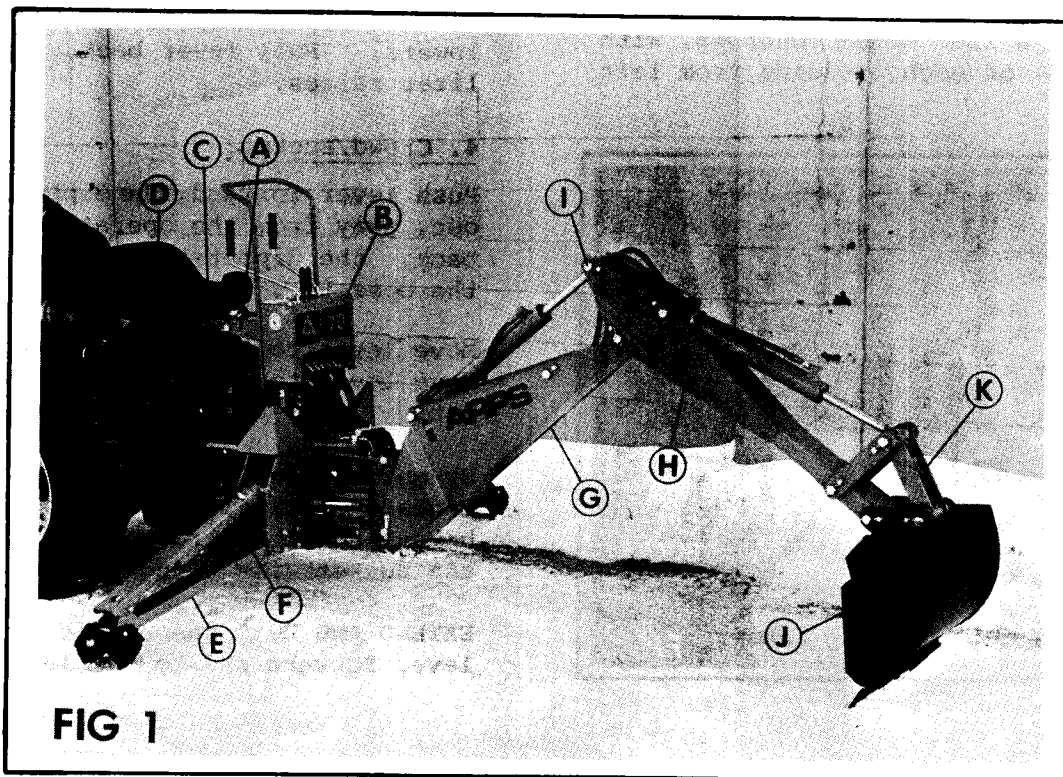

FIG 1
3. Assemble seat bracket (A) to rear of control console (B) in any of the three possible positions using four 1/2 NF x 1" bolts and lockwashers.
4. Attach seat plate assembly (C) to backhoe using one 5/8 NC x 5" bolt and locknut.
5. Assemble seat (D) to backhoe in any of the three sets of holes, using four 5/16 NC x 3/4 bolts and lockwashers.
6. Attach stabilizers (E) to mainframe using pins and hardware assembled to mainframe.
7. Attach stabilizer cylinders (F) to stabilizers using pins and hardware provided.
8. Support boom (G) with hoist and remove wood support from boom and dipperstick (H). Install dipperstick on boom, as shown in Fig 1 & 8 being careful not to stretch or pinch hydraulic hoses. Attach dipperstick cylinder to dipperstick at point (I) using one 1" diameter x 5-1/2 inch pin, two 5/16 NF x 3/4 bolts, two 5/16 x 1-1/2